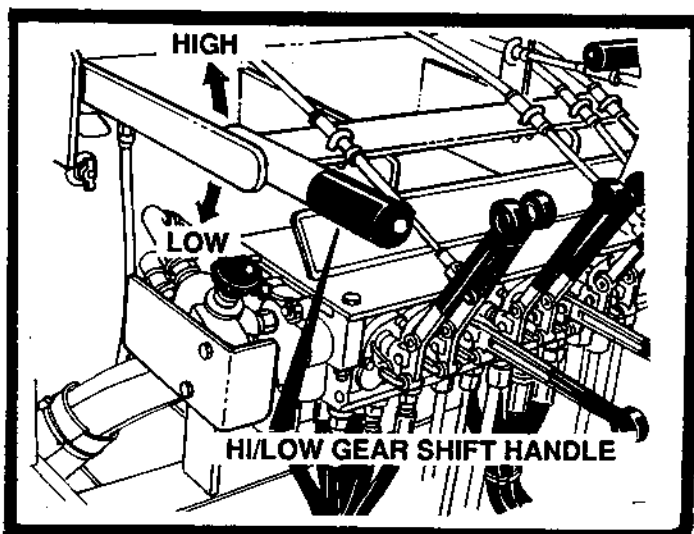

FIGURE 18
- E. Always pave in Low range. See figure 18.
2. In figure 18, shows the method of shifting the paver from HI to LOW gear. High and Low gear, cable is used with the two speed transmission, push down to low gear, pull up to high gear.